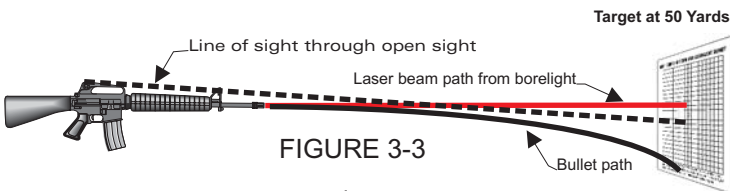

FIGURE 3-3
3. The optical scope or weapon sight is used to cant the barrel in an upward direction so that a bullet fired from the gun will trace an arc to the target. An imaginary straight line drawn through a properly aligned weapon sight attached to a weapon will trace a descending line that crosses the straight line from the bore of the weapon to the target. See Figure 3-3.